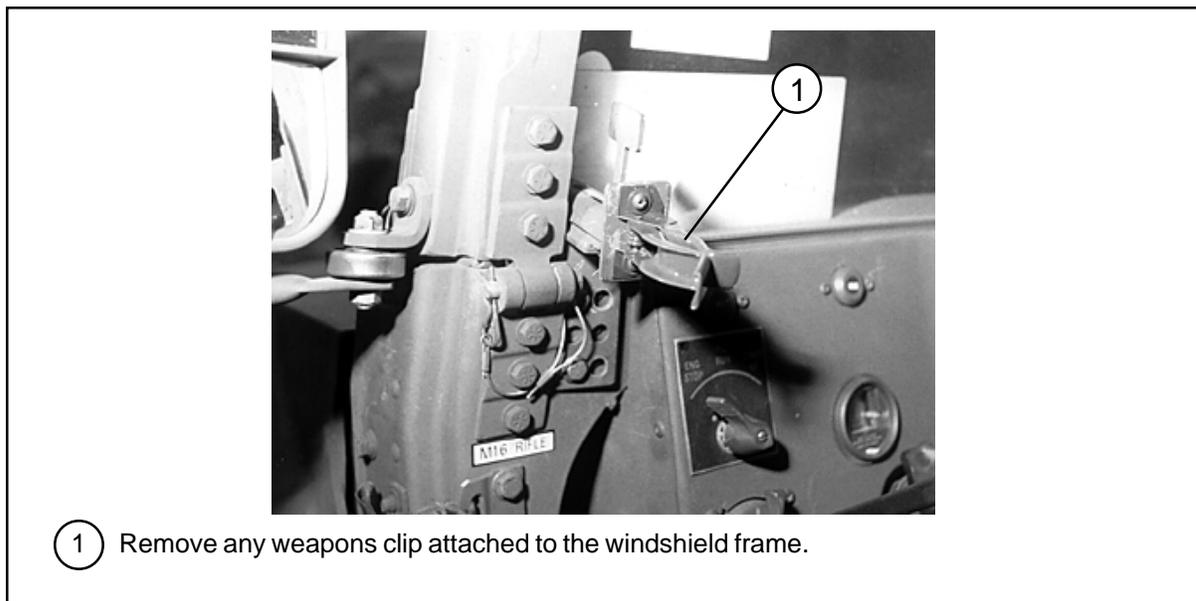

Figure 4-6. Weapons Clip
- c.* Prepare the cab of the truck as shown in Figure 2-8, and remove the rifle clips as shown in Figure 4-6.